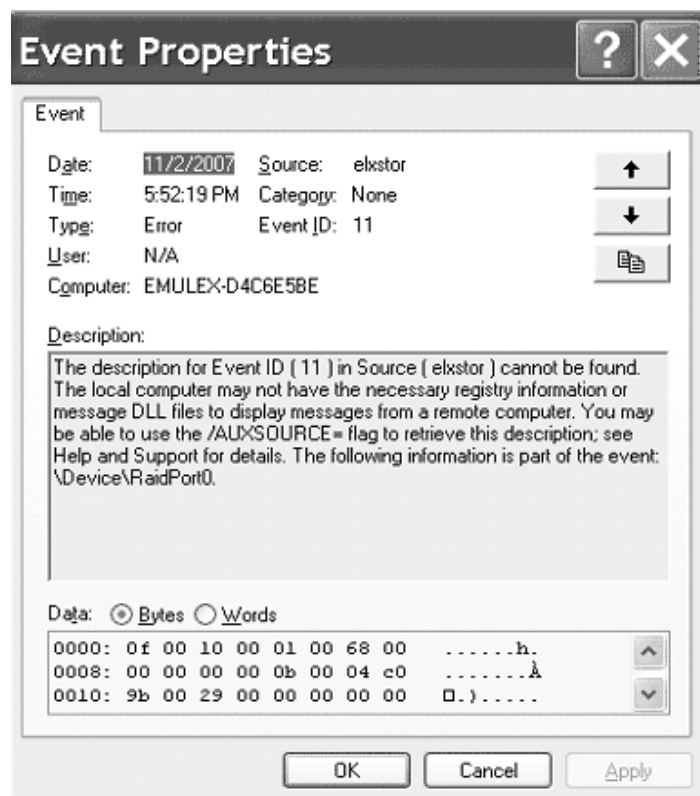

Figure 2: Event Properties
3. Examine the entry at offset 0x10 and Event ID 11. The Emulex event code is found in byte 0010 and supplementary data is in the byte offsets 0011 through 0013 (in example Figure 2, byte 0010 = 9b, byte 0011 = 00, byte 0012 = 29 and byte 0013 = 00).